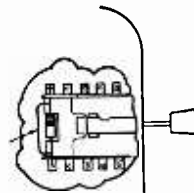

Figure 10
2. Cut the jumper which is connected across the 4.7 megohm resistor of the input voltage bleeder network. This jumper is shown by means of an arrow in Fig. 10. This will double the value of the dropping resistor and compensate for the stronger signal.